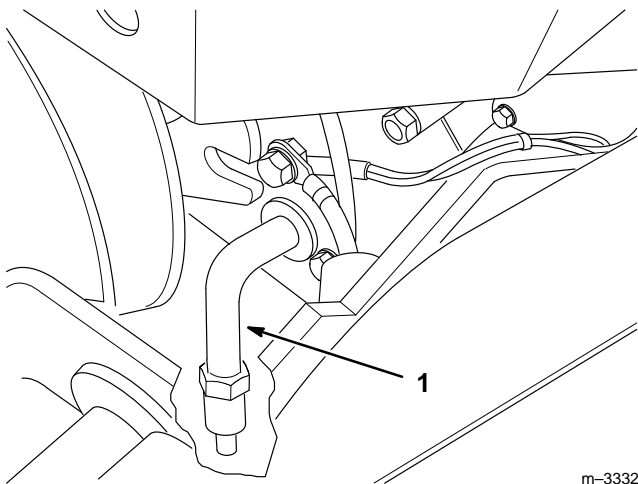

Figure 28
4. Place a pan below the oil drain. Open the drain by turning it counterclockwise 1/8 turn and pulling out on it (Fig. 28).